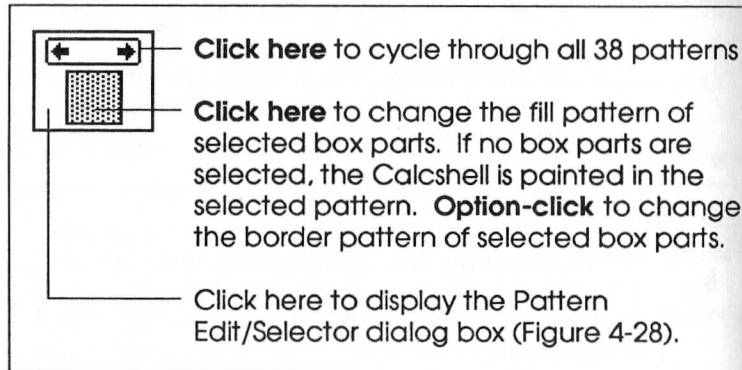
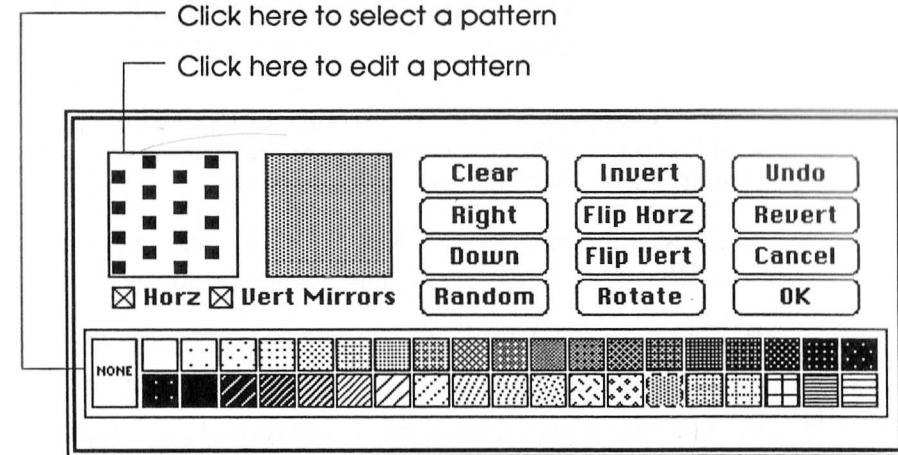
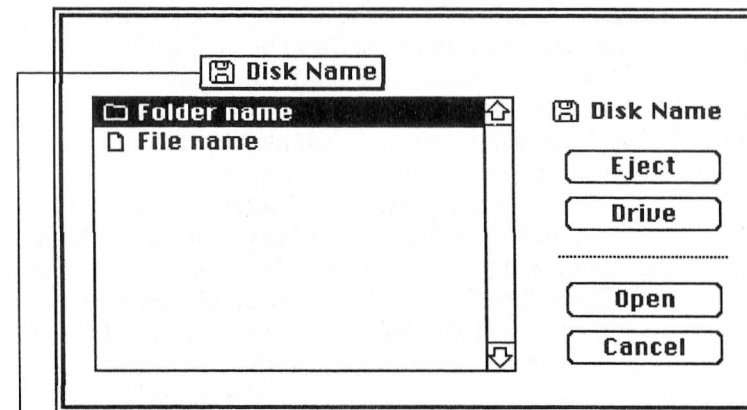

Figure 4-27 The Pattern Selector in detail
Figure 4-28 The Pattern Edit/Selector dialog box
Figure 4-32 Standard "Get File" dialog box
Click outside the selected pattern to edit patterns in the *Edit/Select Pattern* dialog box (Figure 4-28).
In the Edit/Select Pattern dialog box (Figure 4-28):
- ❖ **Open... (⌘O)** displays a *GetFile* dialog box (Figure 4-32). Instructions for using this dialog box are on the next page. This dialog box will only display the names of folders and CCS2 work files. After you select a work file and click the *Open* button, the Work window will appear, displaying the calculator contained in the work file. When the Work window is open, this item will be grayed out.
- ❖ **Load Patterns...** will display a *GetFile* dialog box (Figure 4-32) with a list of *MacPaint* file names from which to read the patterns from. The newly loaded patterns will replace all the patterns displayed in the *Pattern Selector* (Figure 4-28).
- ❖ **Save Patterns...** will display a *GetFile* dialog box (Figure 4-32) with a list of existing *MacPaint* file names to which you may save all the patterns displayed in the *Pattern Selector*. Saving patterns to a *MacPaint* file will not disturb the pictures contained in the file.
- ❖ **Edit Pattern(s)...** will display the *Edit/Select Pattern* dialog box (Figure 4-28). Clicking the selected pattern in the Tools palette will also display this dialog (see Figure 4-27).